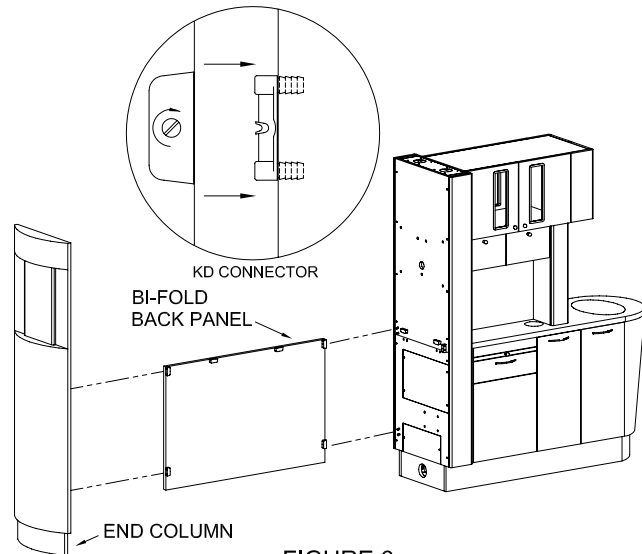

FIGURE 6
Place bi-fold back panel up against the utility column making sure to connect the (2) KD connectors. Engage the KD connectors by turning the screw clockwise about 1/2 turn. See Figure 6. Have an assistant hold the unattached end steady so it does not fall over.
Connect the end column to the (2) KD connectors on the back panel. Engage the KD connectors by turning the screw clockwise about 1/2 turn. See Figure 6.
Mark and drill (3) 5mm ( $\frac{3}{16}$ " ) holes at locations shown. See Figure 6.